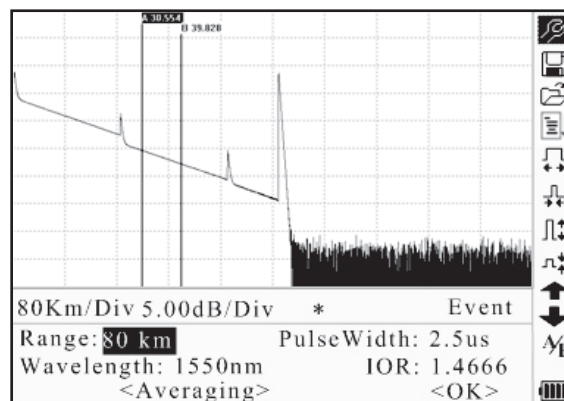

Figure 4-9. Alter Measurements in Realtime Testing
- Use ◀ and ▶ to move to the parameter to be changed (Figure 4-9), and then press Enter.